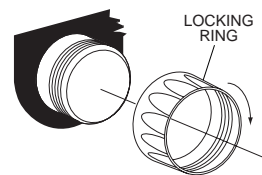

Figure 2
6. Tighten locking ring on gauge in clockwise direction until gauge is tight against dashboard. Tighten locking ring **HAND TIGHT ONLY**. SEE FIGURE 2.